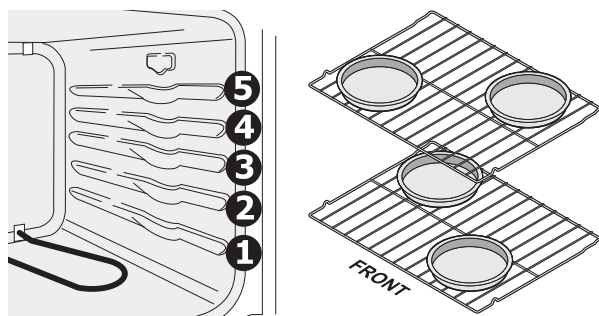

Figure 3: Rack positions (L) and pan spacing (R)
- When baking cakes using 2 racks, place bakeware on oven rack positions 2 and 4 and position pans as shown. (See Figure 3).